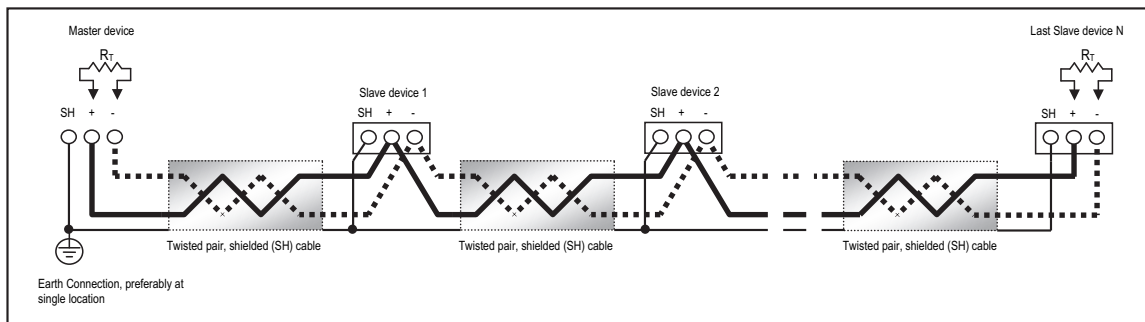

Figure 5.5: RS485 Daisy Chain Connection
- For an RS485 Daisy Chain connection, in which you link multiple devices in a series, connect shield to RS485 Master and individual devices as shown in Figure 5.5. You may also connect the shield to earth-ground at one point.
Figure 5.5 shows a representation of an RS485 Daisy Chain connection. You can connect up to 31 slaves in a Daisy Chain.